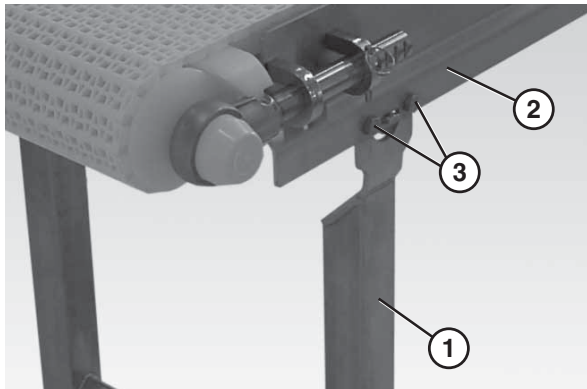

Figure 10
2. Attach the stand (Figure 10, item 1) to the conveyor (Figure 10, item 2) using four M10-1.5 x 12mm hex head cap screws (Figure 10, item 3).
3. Tighten the stand screws (Figure 10, item 3) to 80 in•lb (9 N•m).